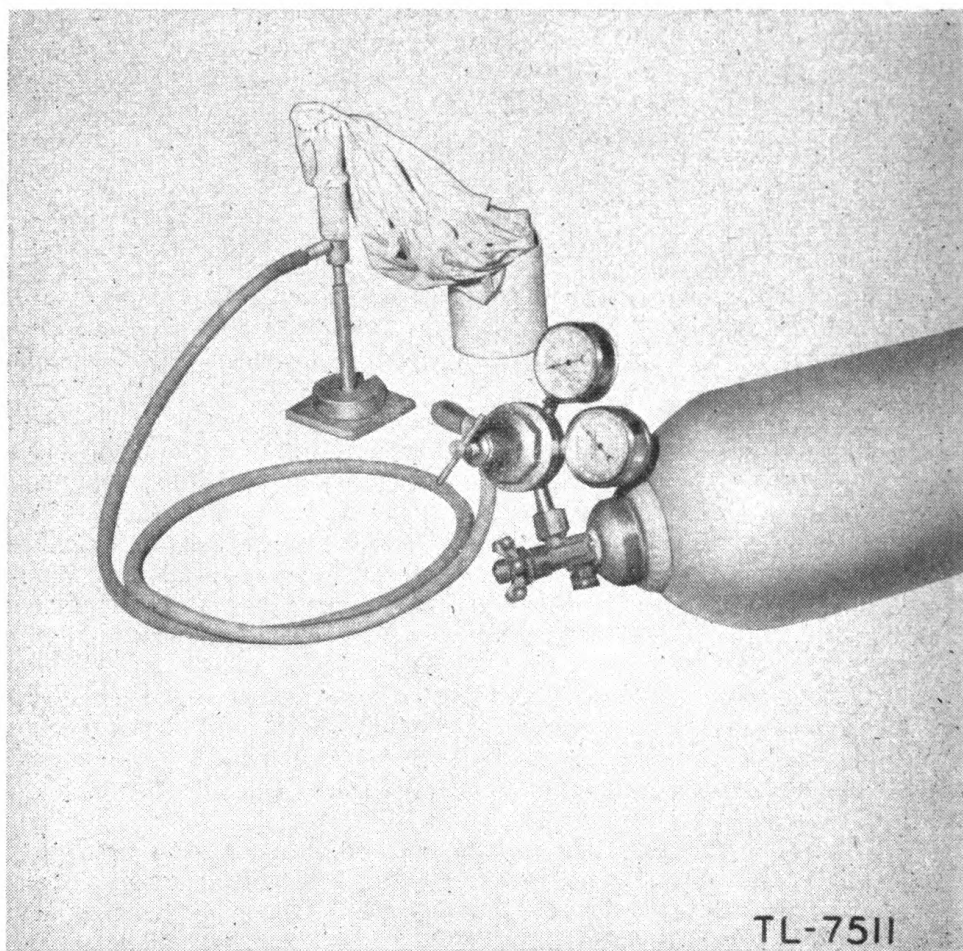

FIGURE 7. Inflation of sounding balloon.
c. PREPARATION OF SOURCES OF HYDROGEN. (1) *Preparation of hydrogen cylinder.* (a) Tightly attach Hose ML-81 (fig. 4①) to Coupling ML-49 (fig. 4④) or to Hydrogen Regulator ML-193 (fig. 7) if the regulator is used *instead* of the coupling. If the joint is loose, fasten a hose clamp, cord, or wire around it.
(4) Remove the balloon from the Cock ML-201-A. It is now ready for release.
10. Inflating Sounding Balloons (fig. 7)
b. Insert the vertical spout of Nozzle ML-196 into the neck of the sounding balloon while the balloon is still in its carton (fig. 7).
c. Attach Hose ML-81, already attached to the hydrogen cylinder (par. 7c (1)), to the other spout of the nozzle. This will prevent air from entering the balloon when it is unfolded.